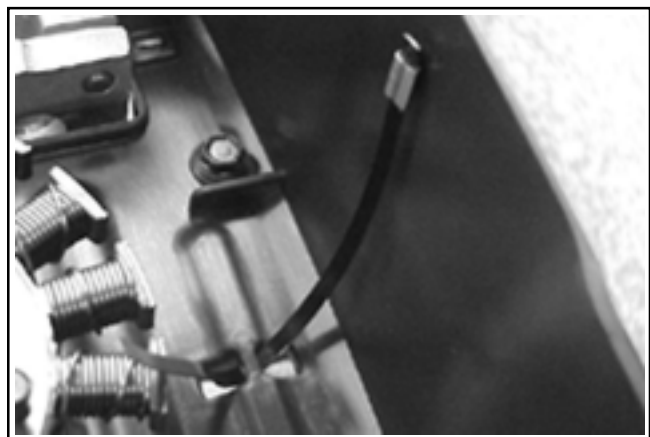

Figure 11-73. Wire Tie Strap.
- Make sure new metal tie strap is still in position in the lower blower housing. See Figure 11-73.